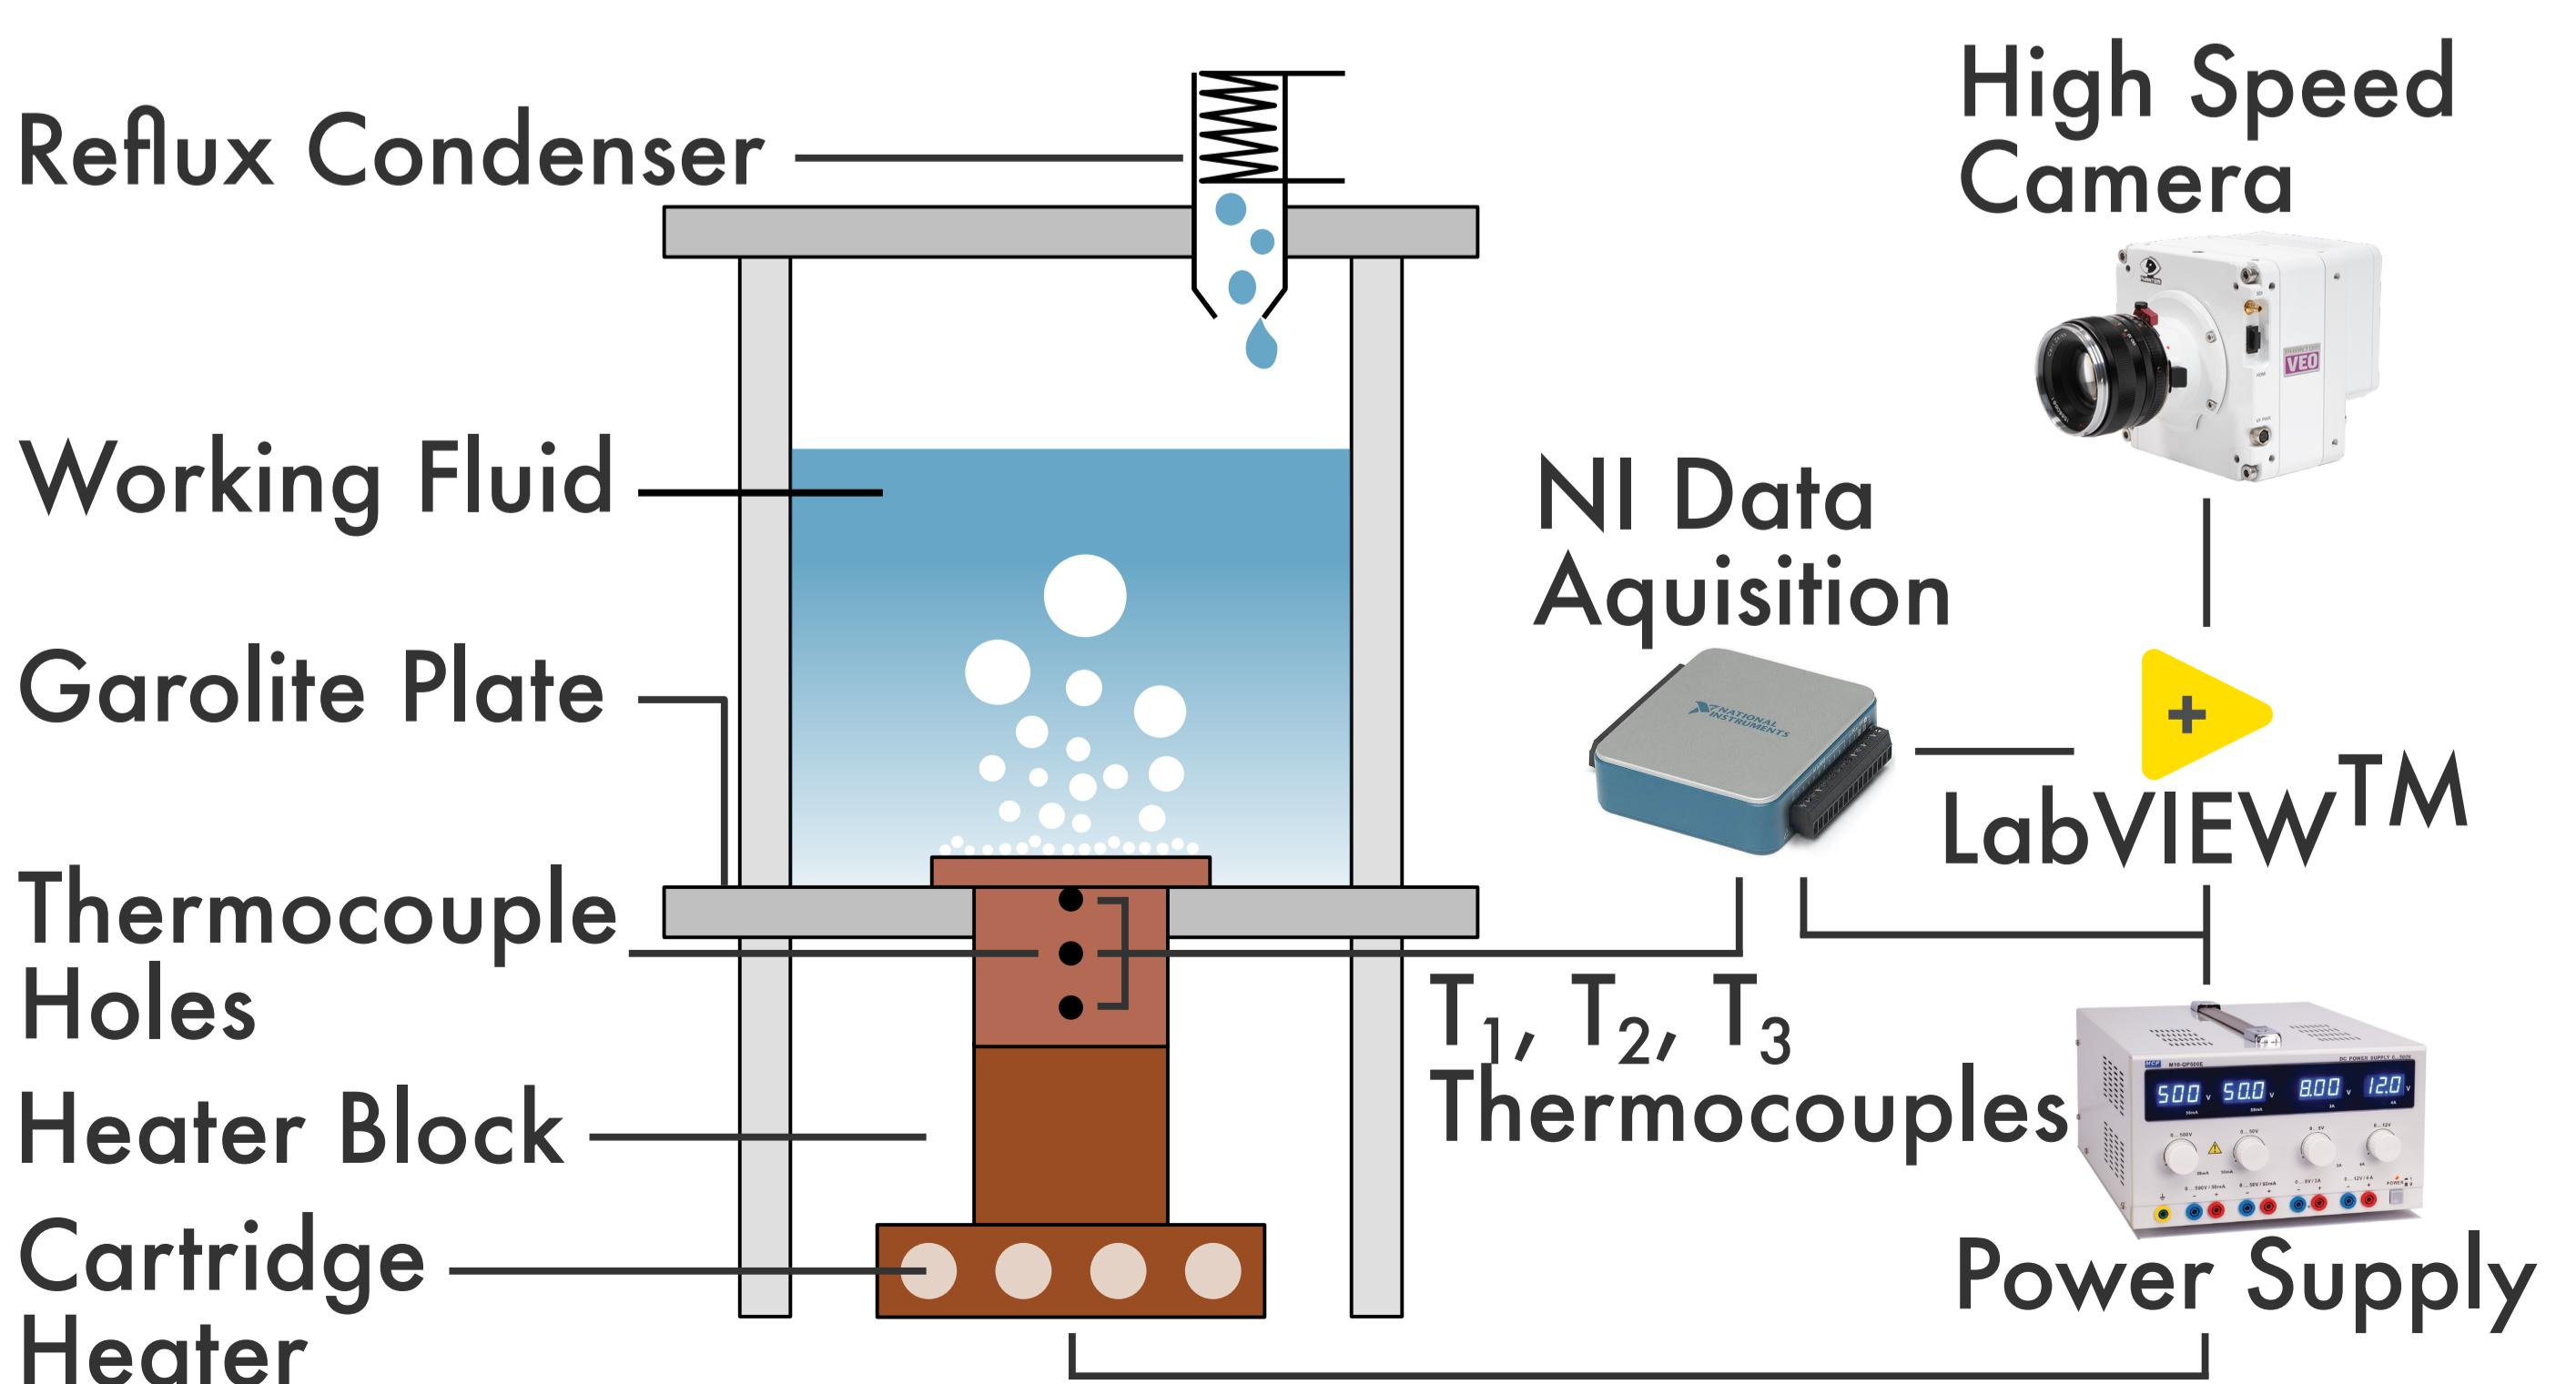

Figure 6. The Experimental Pool Boiling Setup.
- A cartridge heated copper block with thermocouples was used with a reservoir & condenser (Fig. 6). Working fluids: DI water, ethanol, & their binary mixtures.